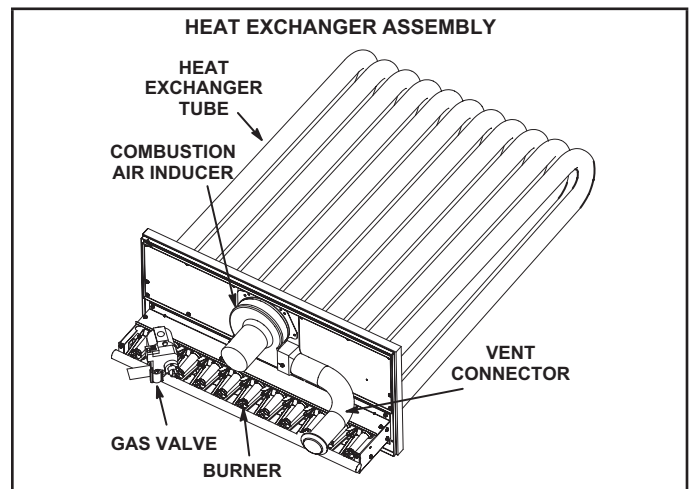

FIGURE 15
**2-Heat Exchanger (FIGURE 15)**